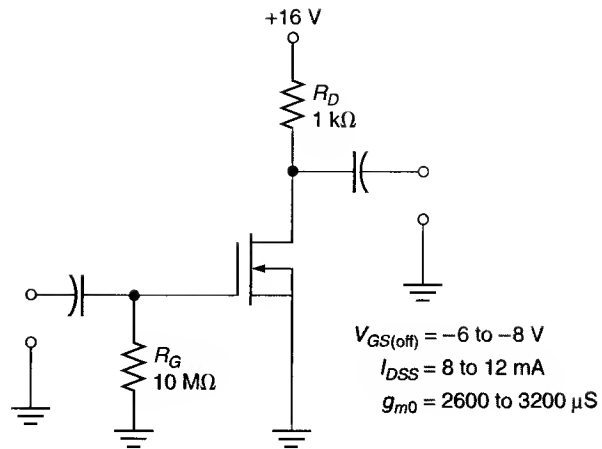

FIGURE 13.37
19. Determine the range of A_v values for the circuit shown in Figure 13.37.